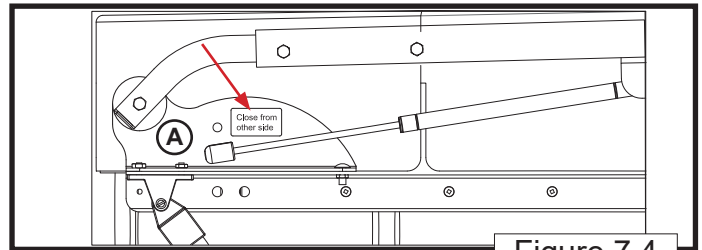

Figure 7.4
5. Place the orange sticker label(Located in Bag #1) that reads “**Close from other side**”on the Base Bracket (A), above the non-locking Gas Spring (Figure 7.4).